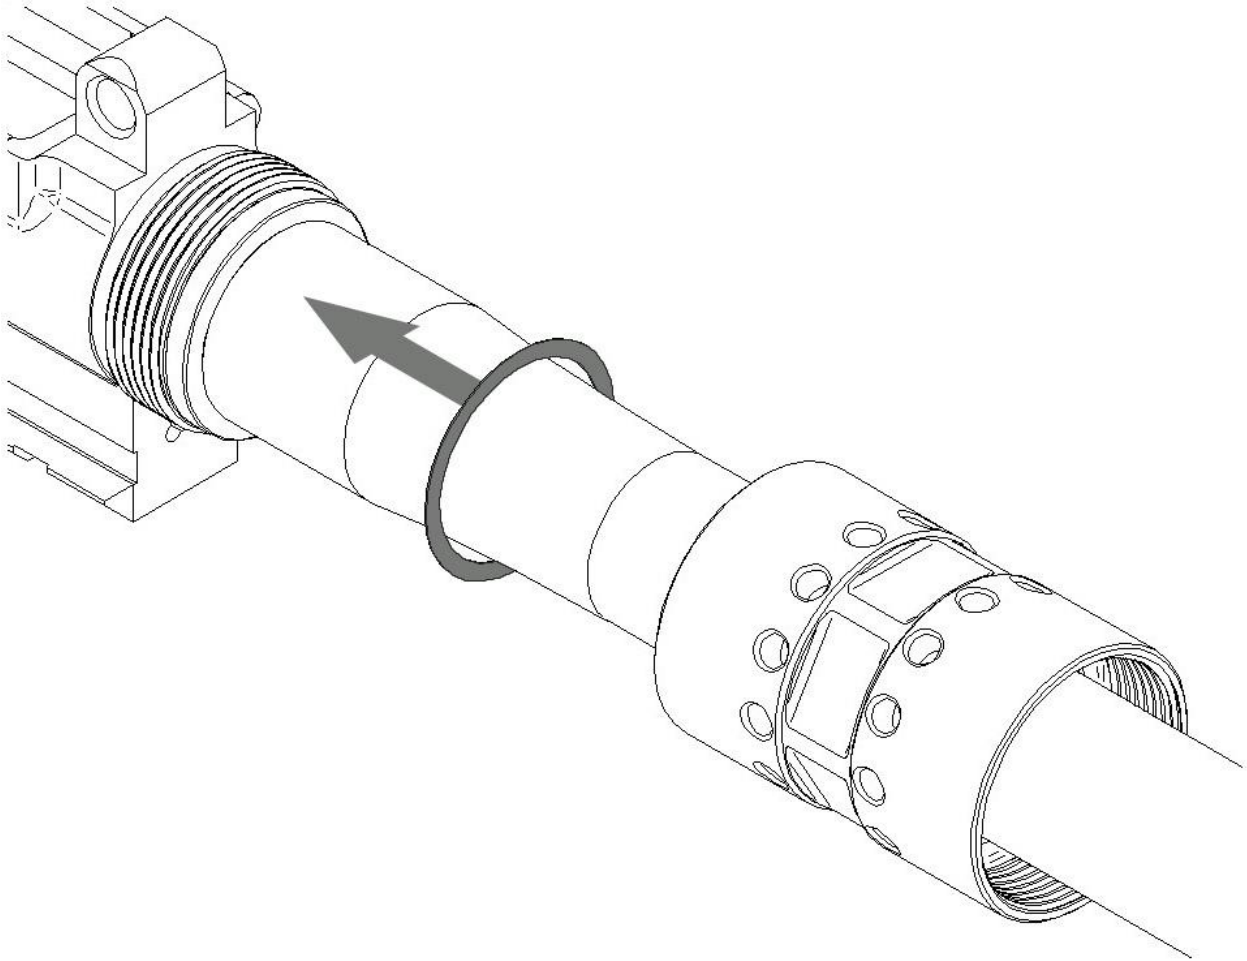

Fig. 1c
3. If the barrel attachment nut does not time properly (fig. 1b) within this torque range, remove it and flip it to the other threaded side. Go back to step 2. If you have already flipped the barrel nut once, remove the nut and slide on the supplied barrel nut shim. (fig. 1c) Slide the barrel attachment nut on after the shim and repeat step 2. The nut and shim have been designed to provide four different timing settings to ensure that the nut will time out properly.